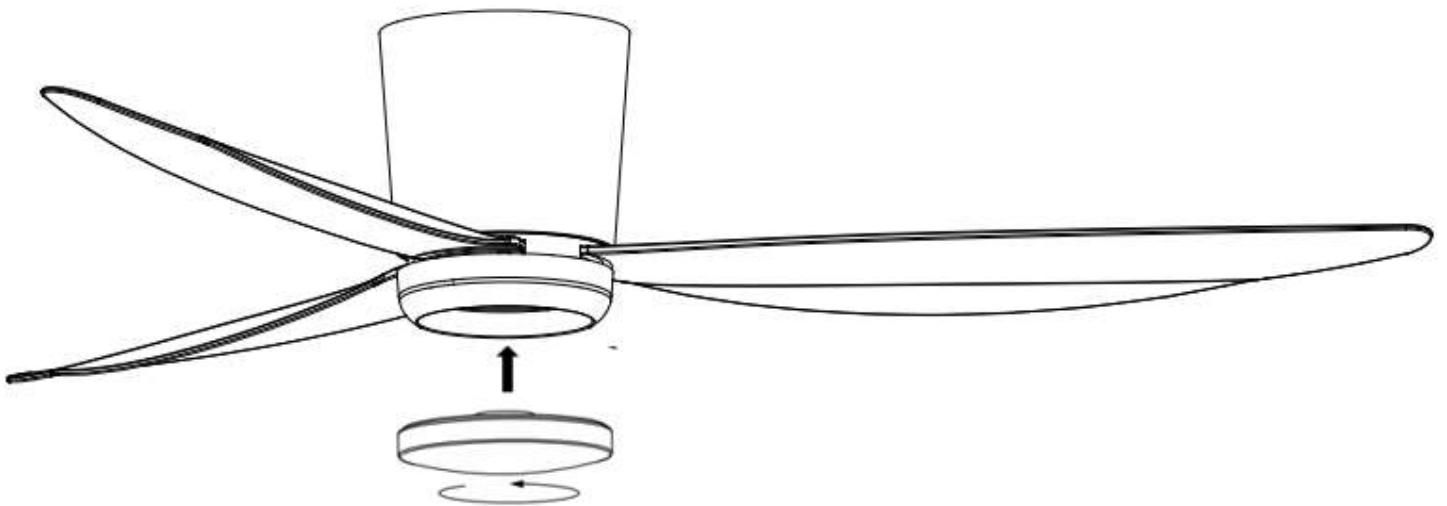

Fig. 12
INSTALLATION OF LAMP (Fig. 12)
- Install the lamp on the fan assembly then secure it by turning clockwise. (Fig. 12)